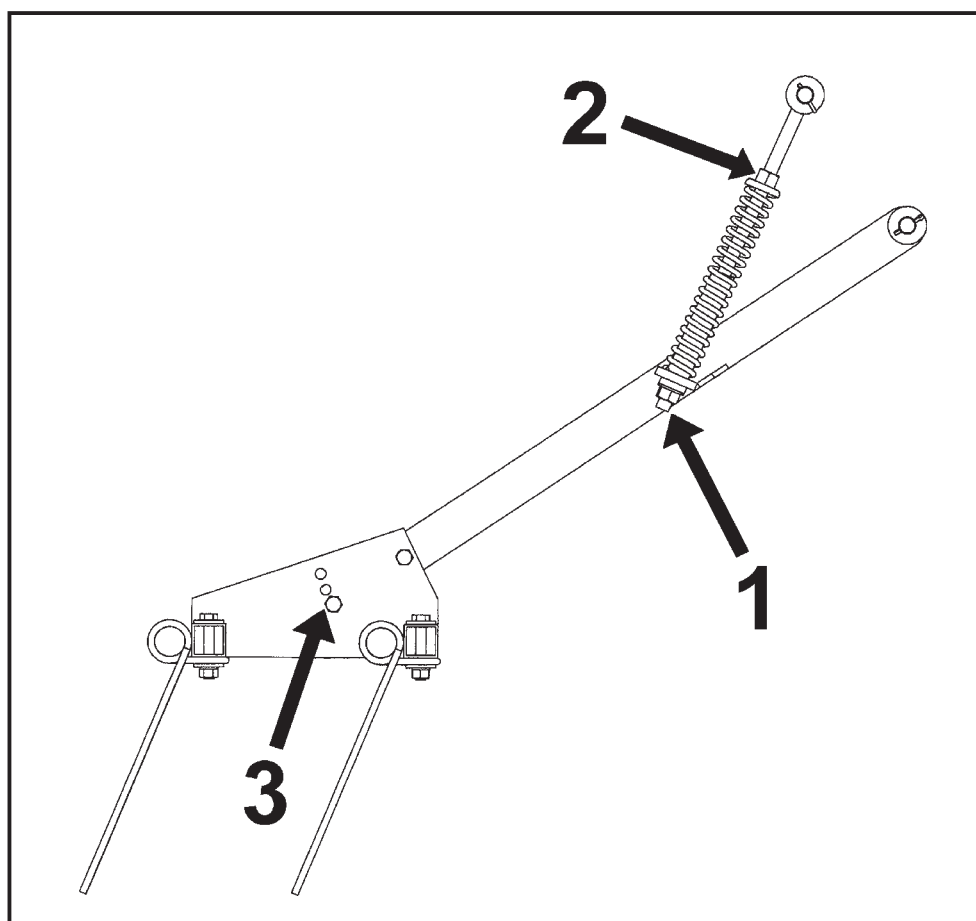

fig. 17
- 1- In height, by means of the inferior nut (1, fig. 17).
- 2- In pressure, by means of the superior nut (2, fig. 17).
- 3- Working angle, shifting between the three assembly bolt positions (3, fig. 17).